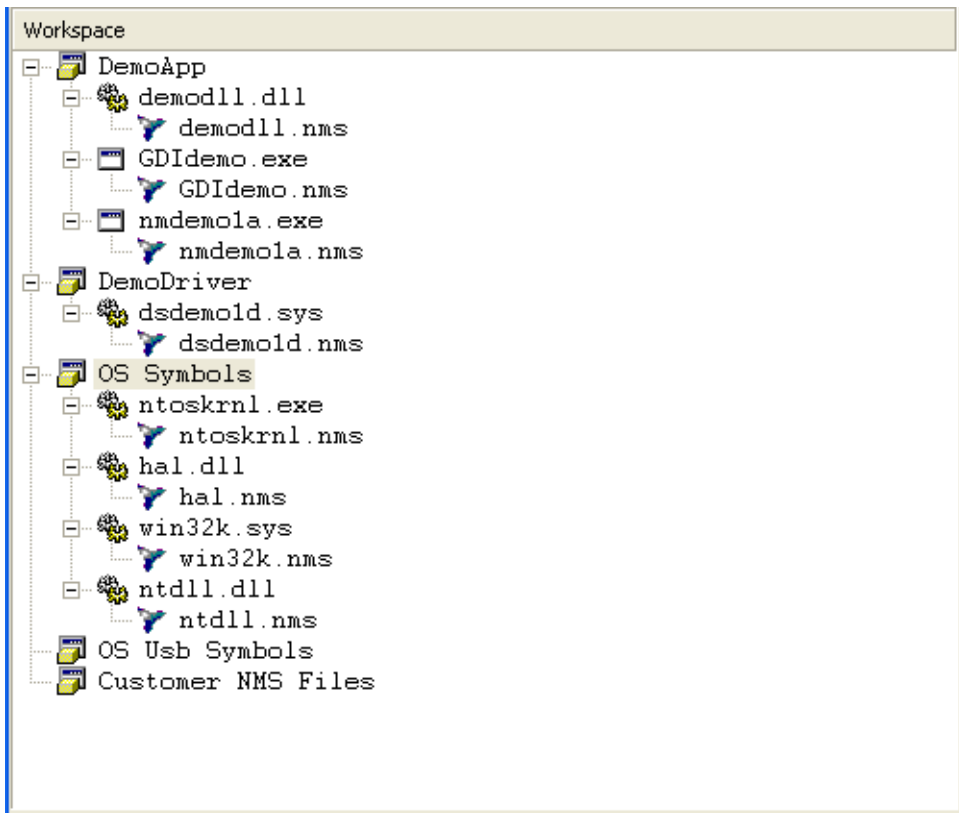

Figure 3-8 Files Loaded into Sessions
The left-hand pane will now list two sessions in your workspace (see Figure 3-8 on page 41).
- 11 Repeat step 9 to access the Add Files dialog and add each of the remaining Demo Application files: `nmdemo1a`, `dsdemo1d`, and `demodll` (see Figure 3-8 on page 41).